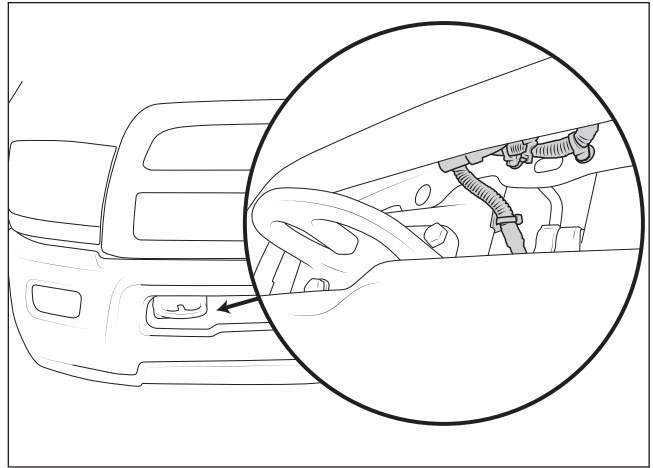

Figure 5
6. Disconnect the block heater plug from the bumper (if equipped)(fig. 5).